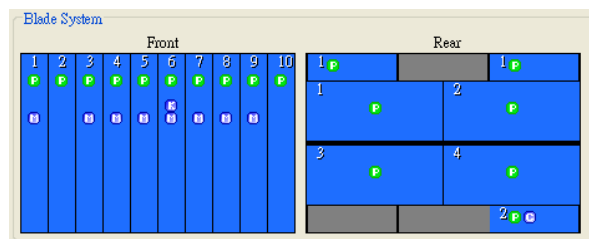
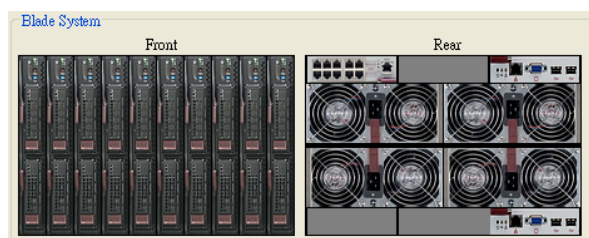

Figure 2-6. Show Status and Number, Hide Picture
Figure 2-7. Only Show Picture
4. **View Option:** This option allows a user to choose to show or hide the module status, picture and number. Figure 2-6 and Figure 2-7 show the results of two different sets of View Options checked.